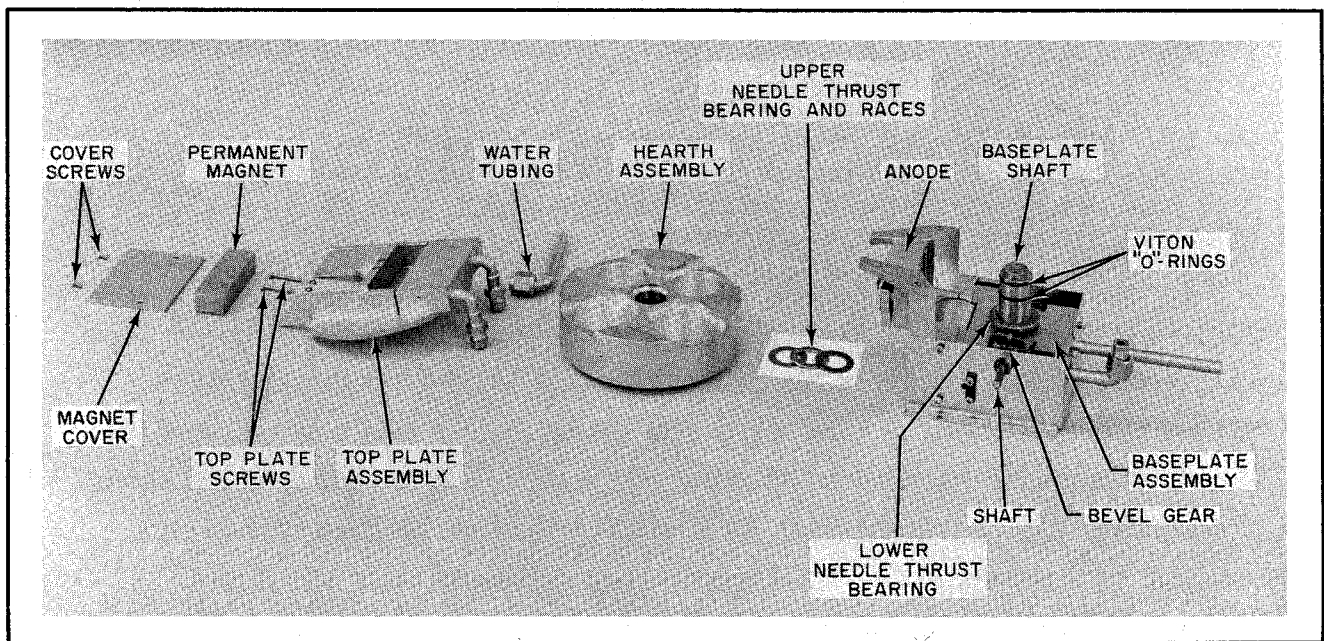

Figure 5-4. 270° Bent-Beam Multihearth Gun with Hearth Removed.
- (1) Turn the power supply for the EB gun off, and open and tag its main supply safety switch.
- (2) Turn off the inlet and outlet water connections to the gun.
- (3) (OPTIONAL) Disconnect the inlet and outlet water lines at the atmosphere side of the feedthrough, and blow them out with compressed air. It will be necessary to rotate the gun through all four hearth positions to drain the entrapped water completely.
- (4) Remove the cover retaining screws and lock washers and lift off hearth cover.
- (5) Grasp the underside of the hearth with the fingers and carefully rotate it back and forth through 20 to 30 degrees while pulling it up and off the shaft of the baseplate assembly. Top bearing race, bearing and lower bearing race will remain in the hearth recess. Remove bearing races and bearing from hearth recess after hearth is free of baseplate shaft (see Figure 5-4).